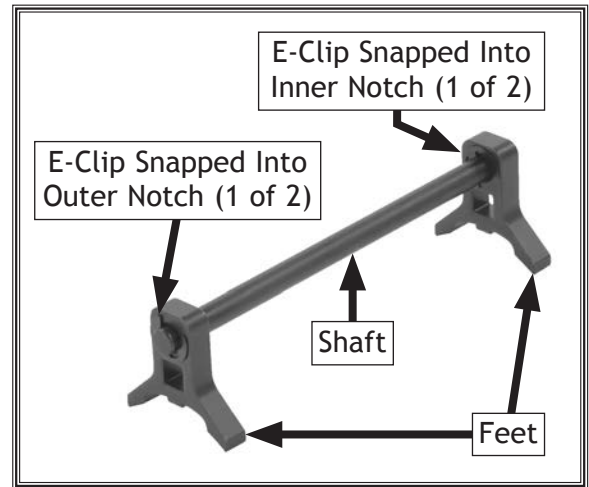

Figure 14. Example of assembled knife-setting jig components.
- 9. **W1864:** Assemble knife-setting jig (see **Figure 14**).
- a. Snap (2) 9mm E-clips into inner notches on knife-setting jig shaft.
- b. Slide (2) knife-setting jig feet onto ends of shaft.
- c. Snap (2) 9mm E-clips into outer notches on ends of shaft to secure feet.